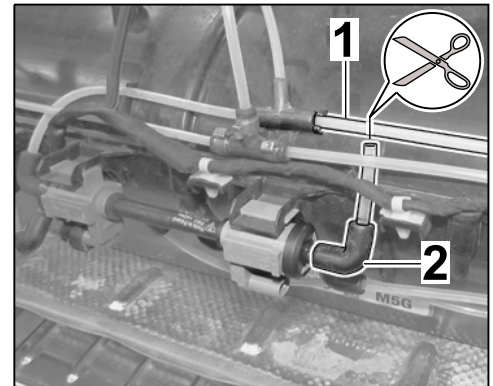

Figure 55
10.3.5 Install moulded hose ⇒ *Figure 55 -2-* on the vacuum valve.